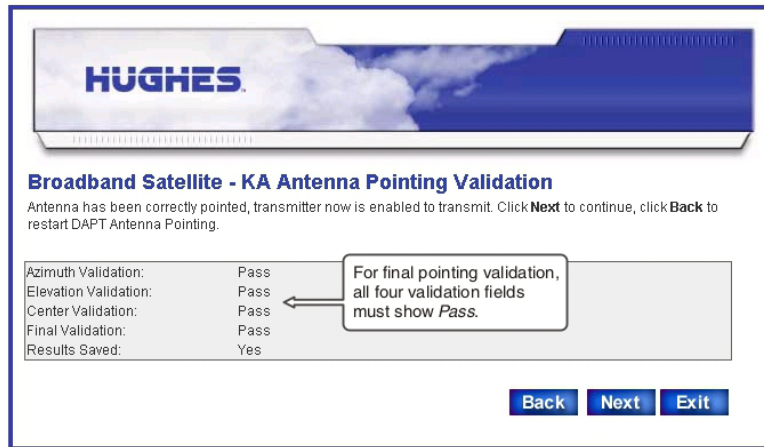

Figure 30: KA Antenna Pointing Validation screen — final validation passed
4. Perform the pointing validation steps described in the ***Ka-Band Antenna Pointing Guide for Bent-Pipe Satellite Networks*** (1038764-0001). Pointing is validated when *all four* validation fields show *Pass*, as shown in Figure 30 on page 48.
**Note:** The **Next** button shown in Figure 30 is present only if final validation is successful. If any test failed, only the **Back** and **Exit** buttons are present.